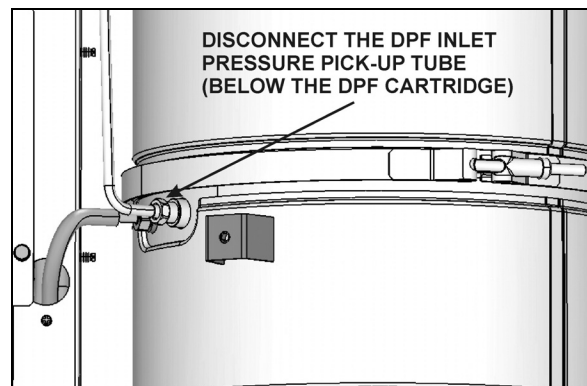

FIGURE 6: DISCONNECTING THE LOWER PRESSURE PICK-UP TUBE (VOLVO D13 ONLY) 04025
6. **With Volvo D13 engine:** Disconnect the DPF inlet pressure pick-up tube, this will help to clear the way off for removal of the DPF cartridge from the compartment (figure 6).